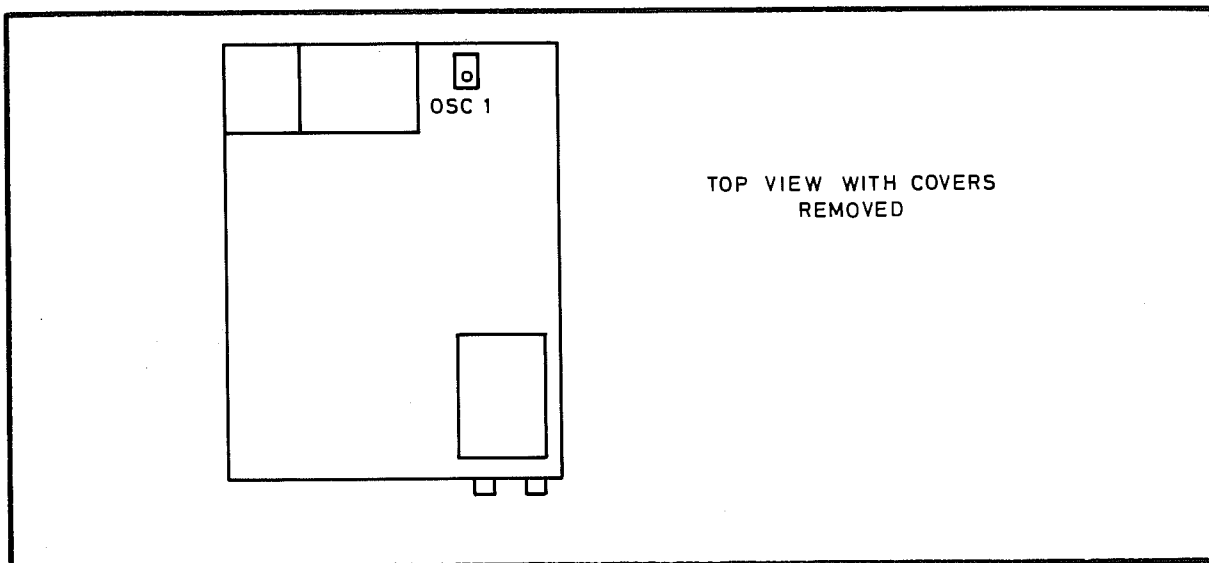

Fig 7.15 Location of Standard Oscillator OSC1
- (4) Adjust the internal frequency standard to be as near 10 MHz as possible. The display limits are shown in Table 7.4. The standard oscillator is located on the motherboard, as shown in Fig 7.15, but the TCXO option may be adjusted via the rear panel.